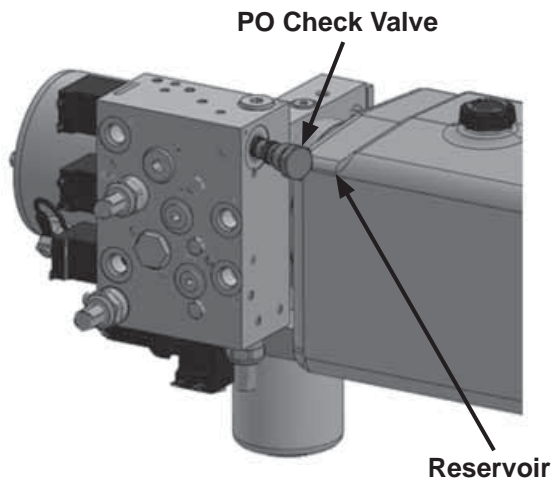

Fig. 2-2
5. Use 7/8” wrench to remove **PO check valve** from manifold block (**Fig. 2-2**). Angle valve when removing to clear plastic reservoir.